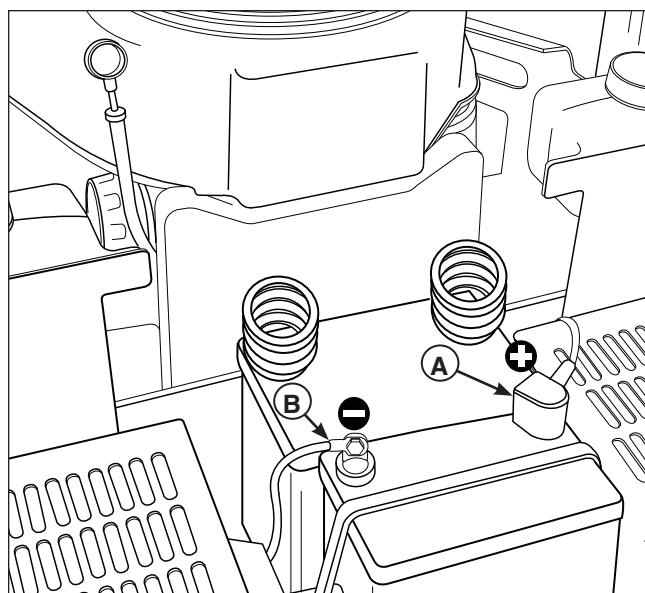

Figure 41. Battery Compartment
1. Disconnect the cables from the battery, negative (black) cable first (B, Figure 41).
3. Reinstall the battery and reattach the battery cables, positive (red) cable first (A).